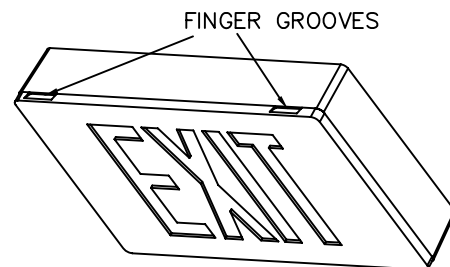

FIGURE 1
- A. Door of sign is hinged at the bottom and may be opened by turning a screwdriver in the top near the finger grooves and pulling the door open. (See Figure 1)